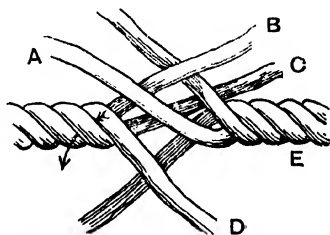

Fig. 519.—Rope Strands placed Alternately.
**Splicing Cotton Rope.**—Unlay the ends to be spliced to the extent of six or seven times the rope's diameter, and place these alternately together as shown in Fig. 519. Push them up close, and grasp in the left hand the three ends B, C, and D, together with that part of the rope marked E, then proceed to tuck the ends; the end A is passed as shown by the arrow. After